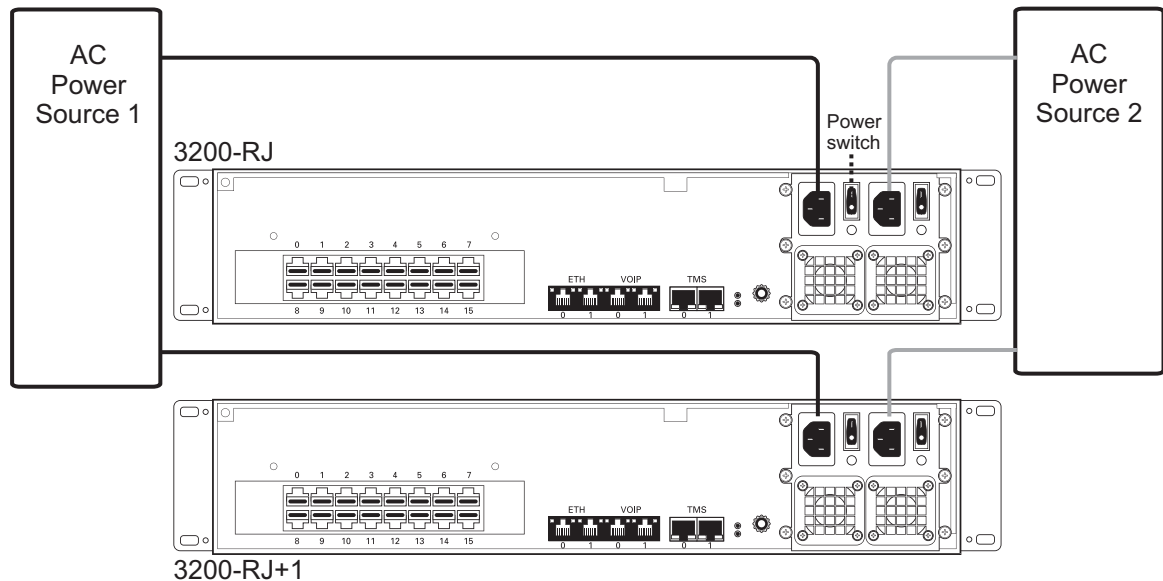

Figure 2.19 3200 Series and 3200 Series +1 AC Power Connections
1. Connect the first power connector of each unit to the first power source. See Figure 2.19.